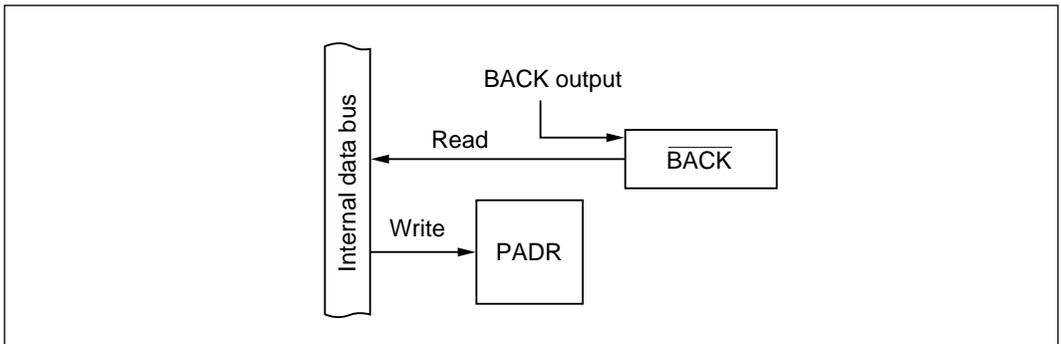

Figure 10-66 $\overline{\text{BACK}}$ Output Pin (Modes 1 to 6)
(4) **BACK Pin (PA₆; Modes 1 to 6):** Figure 10-66 shows a block diagram illustrating the $\overline{\text{BACK}}$ function. Table 10-50 indicates register read/write data. When PA₆ is used for $\overline{\text{BACK}}$ output, the value written in the port A data register (PADR) has no effect.